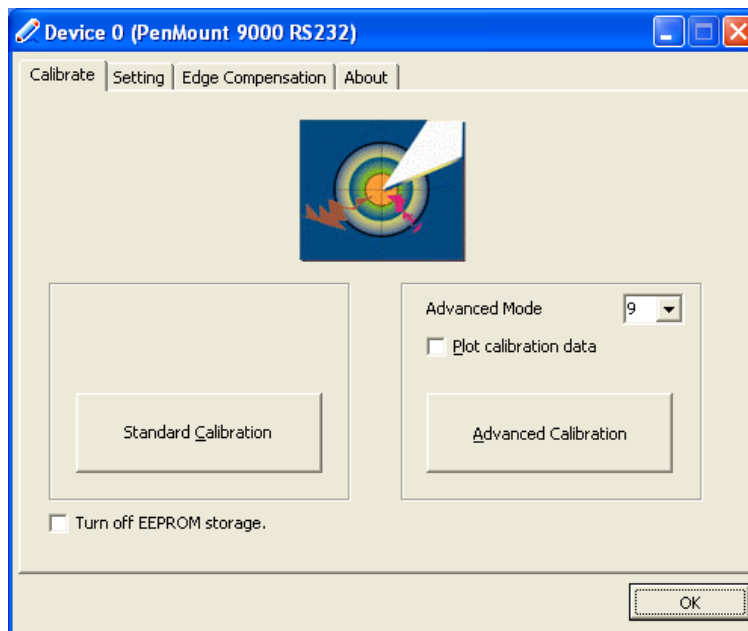

Figure 8-20: Calibration Initiation Screen
Step 7: The calibration initiation screen in **Figure 8-20** appears.
Step 8: Select the **Standard Calibration** button as shown in **Figure 8-20**.